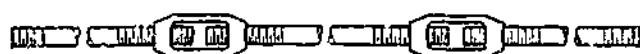

Figure 17-13. Turnbuckle Tie Rods
o) Turnbuckle tie rods with one or more turnbuckles (Figure 17-13) are obtainable in at least $\frac{1}{4}$ " to 2" diameter with NC thread, or 6 mm to 53 mm diameter with ISO thread. Any length of rod may be developed. One end of the rod has a right-hand thread, and the other a left-hand thread.